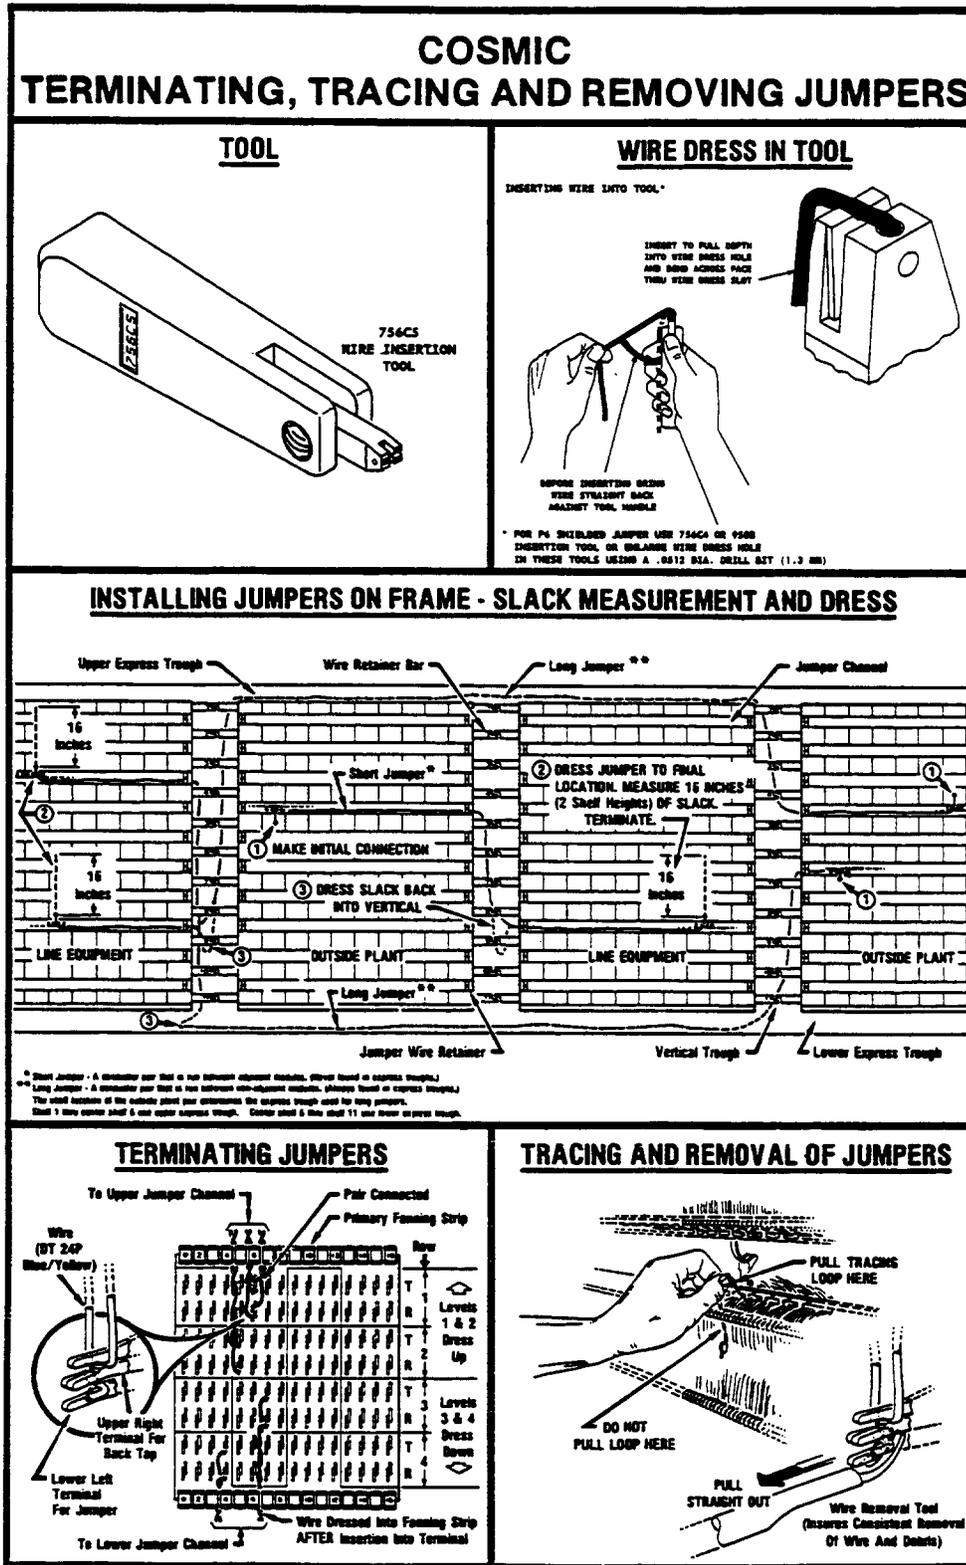

Figure 15—Frame Operations Decal — Cross-Connect Side (78 Blocks)
2.17 Cross-Connect Side for COSMIC I, IA, II, and IIA — This decal (Figures 15 and 16) describes the tools and procedures used for placing, removing,